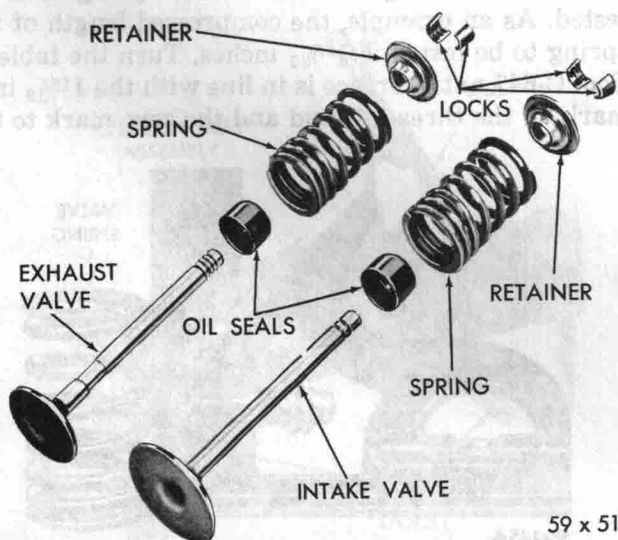

Fig. 25—Valve Assembly (Disassembled View)
(1) Coat the valve stems with lubricating oil and insert them in position in cylinder head.
(2) Install the cup seals on intake and exhaust valve stems and over valve guides, as shown in Figures 25 and 26 and install valve springs and retainers.
(3) Compress the valve springs with Tool C-3422. Install locks and release tool.